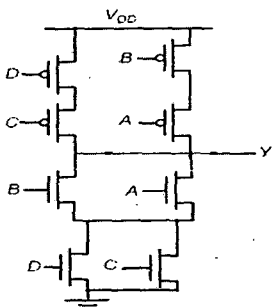

Figure 1
- 3. Size the NMOS and PMOS transistor for the circuit given in Fig.1 such that the output resistance is same as that of an inverter with an NMOS $W/L=3$ and PMOS $W/L=6$.